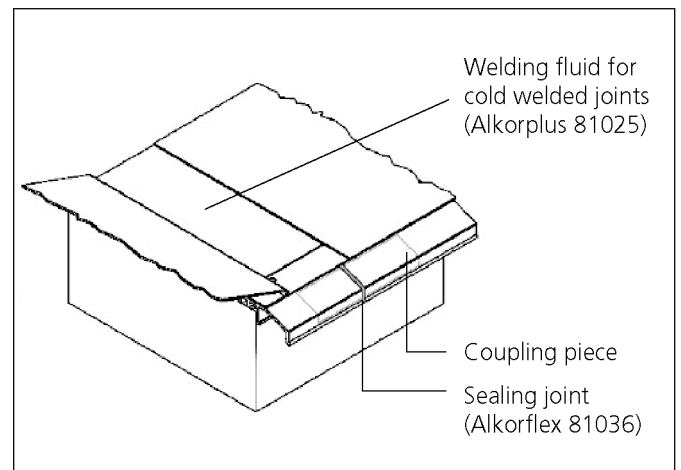

Fig. 11 Sealing the joints of the air handling unit
4. Seal the joints of the unit (compare with Fig. 11).